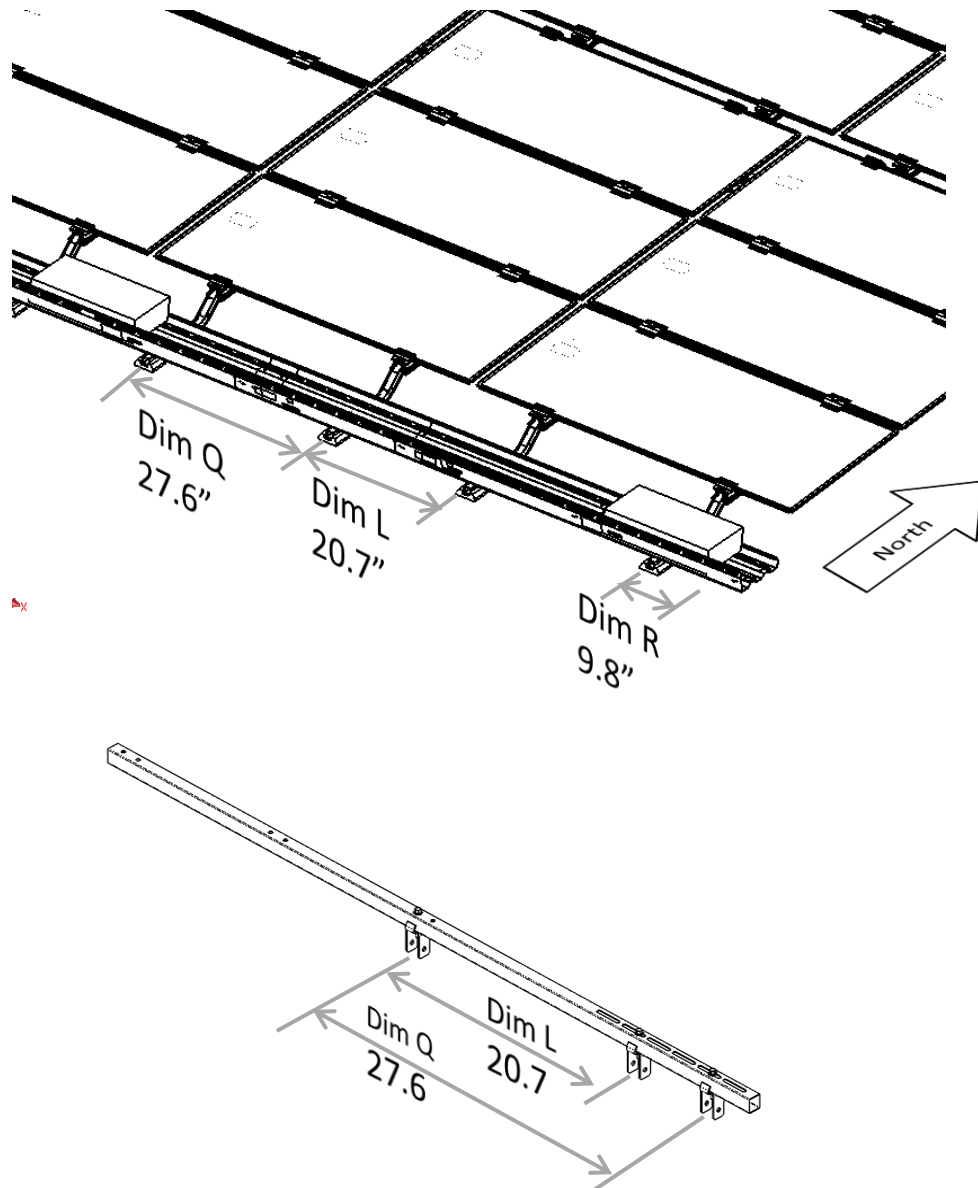

Figure 6 Spacer Stick and system reference dimensions
- Spacer Stick (supplied), See Figure 6 on page 10
2.1. Reference Figure 6 and set spacer stick brackets to the Q dimension and the L dimension.